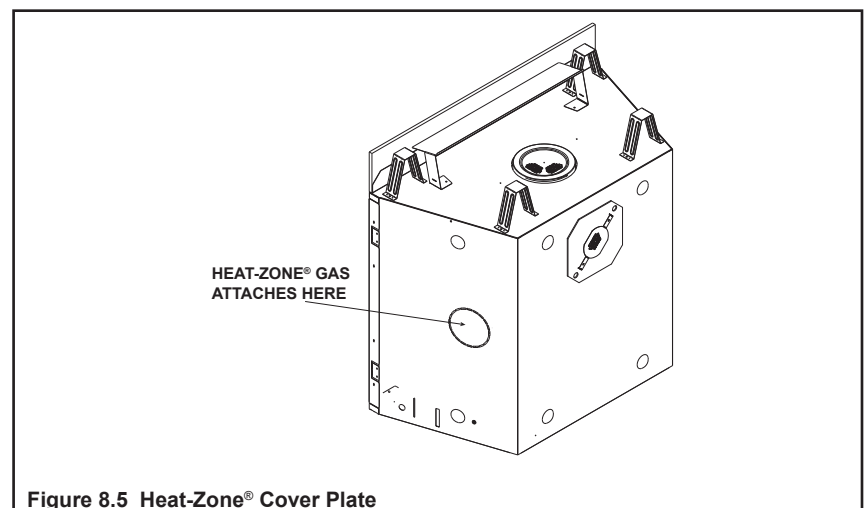

Figure 8.5 Heat-Zone® Cover Plate
- Remove the knockout from the fireplace and discard it See Figure 8.5.